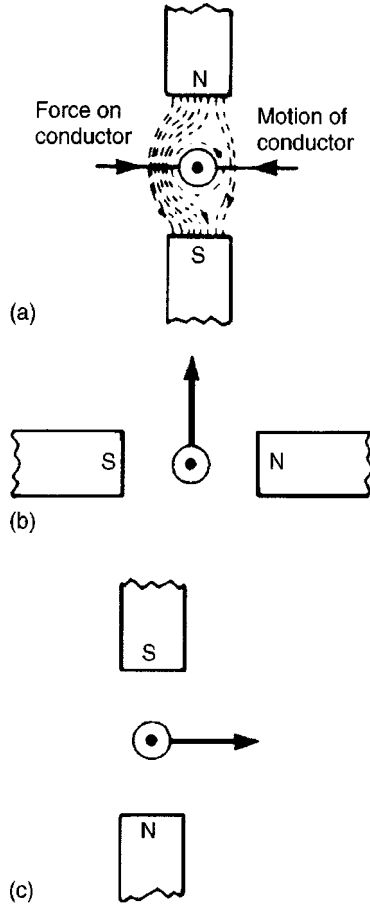

Figure 9.5
(i) Using Lenz's law: The field due to the magnet and the field due to the current-carrying conductor are shown in Fig. 9.5(a) and are
i.e. **towards the viewer or out of the paper**, as shown in Fig. 9.5(b)
(iii) The polarity of the magnetic system of Fig. 9.4(c) is shown in Fig. 9.5(c) and is obtained using Fleming's right-hand rule.